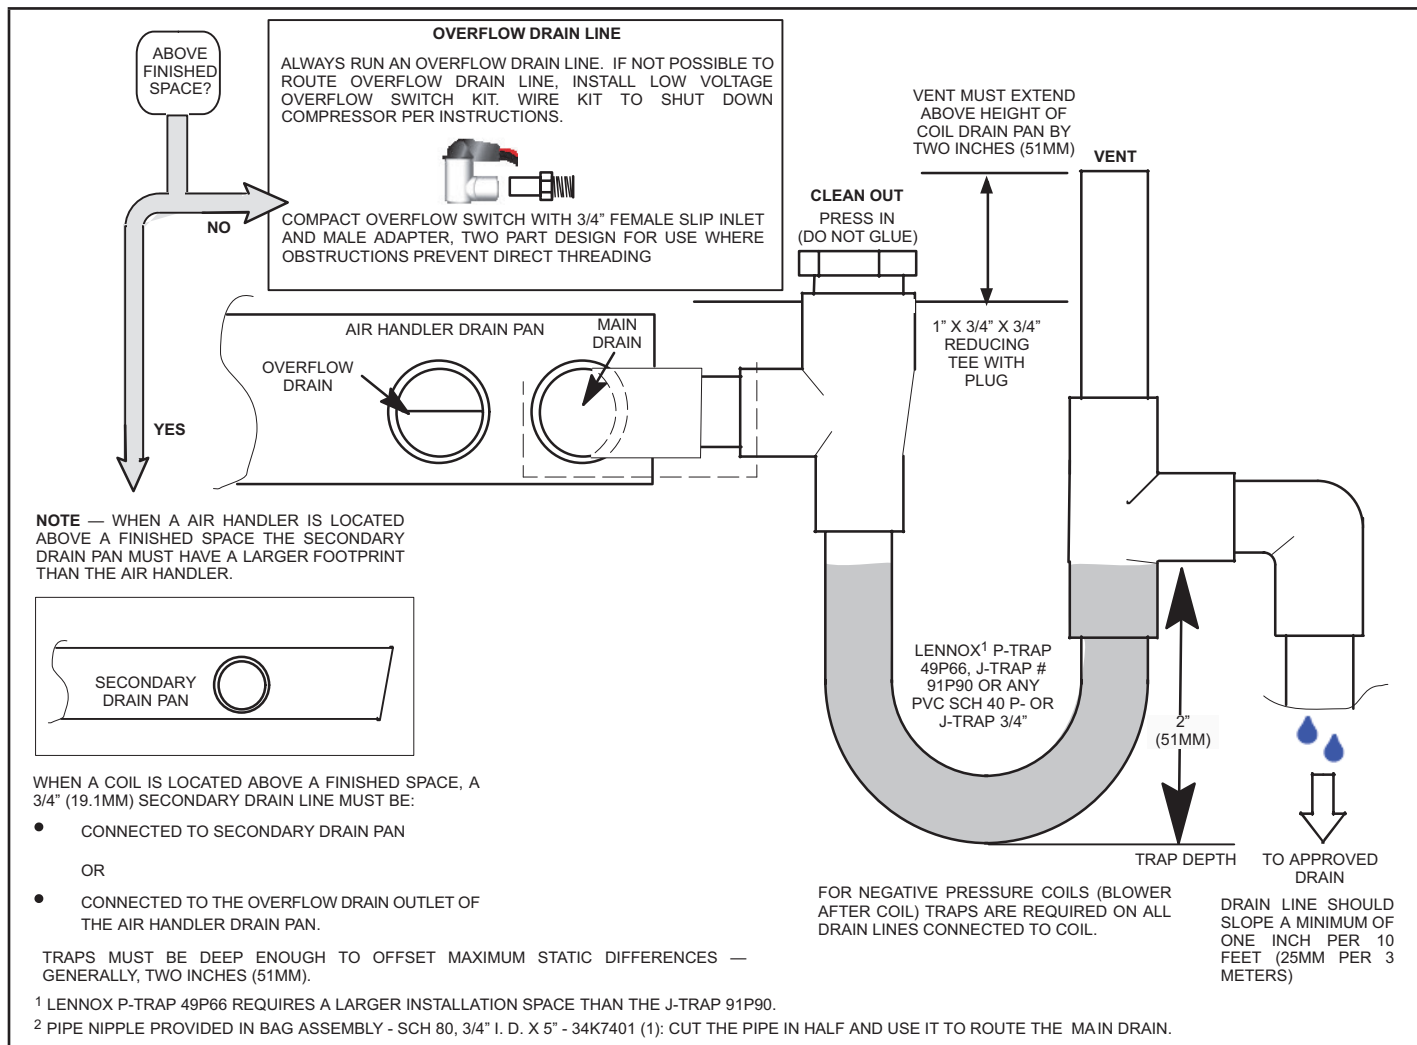

FIGURE 10. Typical Main and Overflow Drain
- 6 - Install a 2" trap in the main (primary) drain lines as close to the unit as practical (see figure 10). Make sure the top of the trap is below the connection to the drain pan to allow complete drainage of the pan.